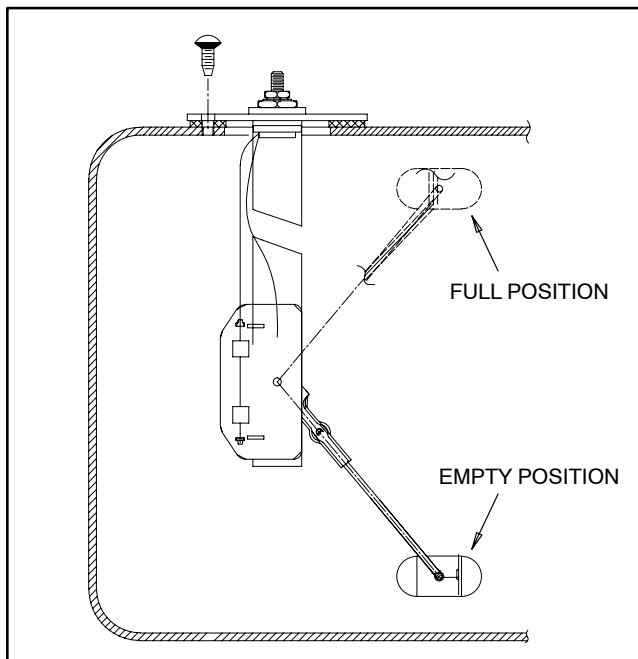

Figure 6
5. Check resistance of the sender with a multimeter (Fig. 6).